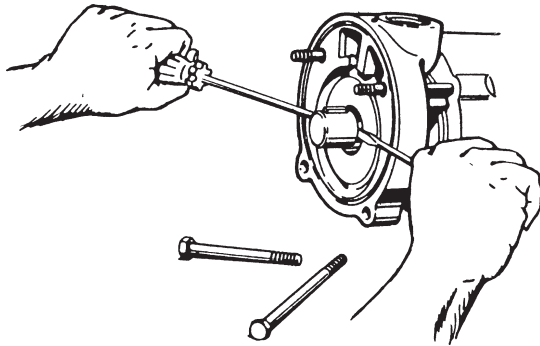

FIGURE 6
6. Remove the shaft sleeve (#17). The sleeve is a keyed fit and is removed using two large screwdrivers. Refer to Figure 6.